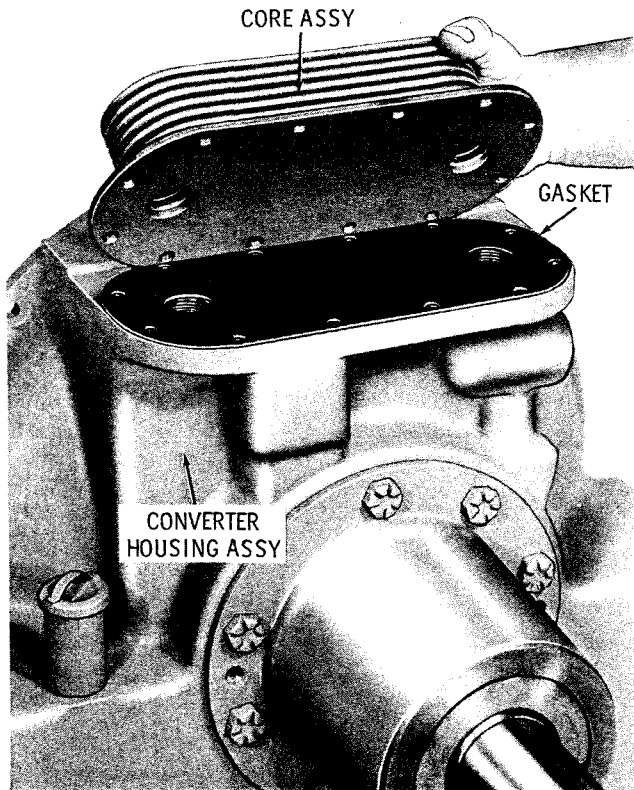

Fig. 7-14. Installing oil cooler core
(1) If orifice plug 6(B, foldout 8) was removed, replace it. Use a 0.218 diameter orifice for the TC 200, or 0.312 diameter orifice for the TC 300.
(2) Install oil cooler core gasket 5 and cooler core 4 onto the oil cooler mounting pad (fig. 7-14).
(3) Install cover gasket 3 (B, foldout 8) and cover 2. Install twelve 5/16-18 x 3 3/4-inch bolts 1 into the oil cooler cover and tighten the bolts to 13 to 16 pound feet torque.